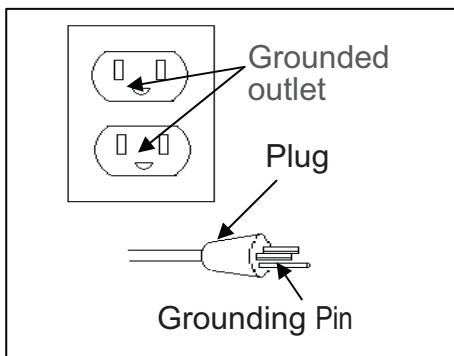

Figure 1
**J. POWER CORD:** This product is for use on a nominal 120-volt circuit and should be grounded. A cord with a grounding plug must be used. Make sure the product is connected to an outlet having the same configuration as the plug (see Figure 1). No adapter should be used with this product.